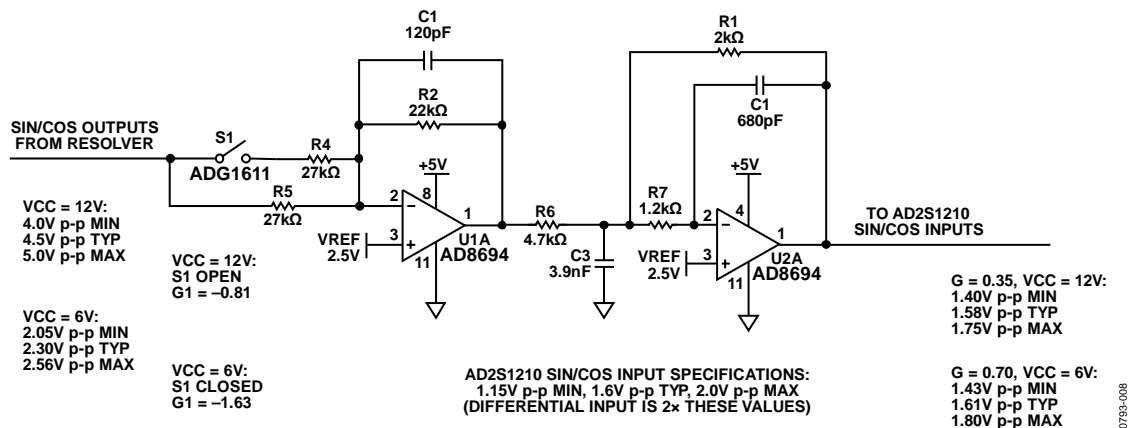

Figure 8. Resolver Receiver Circuit (Simplified Schematic: All Connections and Decoupling Not Shown)
Figure 8 shows the receiver circuit that includes a third order Butterworth filter and a programmable gain stage. When the driver circuit is in the high performance mode ($V_{CC} = 12\text{ V}$), S1 is open, and the overall gain is 0.35. The input drive to the resolver is 18 V p-p (differential), and the SIN/COS outputs are 9 V p-p differential because the resolver transformation ratio is 0.5. The 9 V p-p differential is 4.5 V p-p single-ended, and when multiplied by the 0.35 gain factor, yields 1.58 V p-p (3.16 V p-p differential) which is the optimum input voltage for the SIN/COS inputs of the AD2S1210. Similarly, in the low power mode S1 is closed, and the overall gain is 0.7 which again provides an optimum input signal level for the SIN/COS inputs of the AD2S1210.
2. Ensure that none of the components are subjected to overvoltage. For example, if the resolver output voltage is too high for the ADG1611 switch, a resistor can be added in series with the input to the circuit shown in Figure 8.